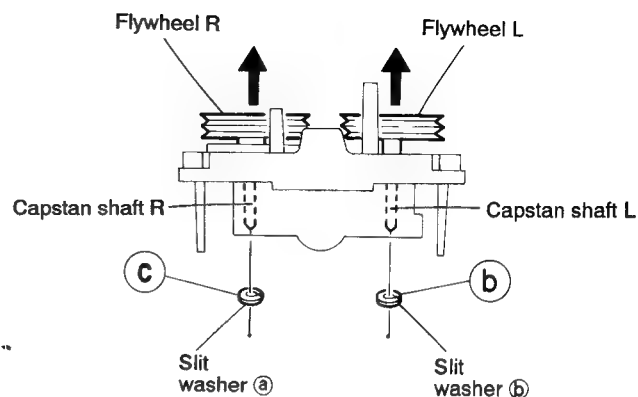

Fig. 5-25
■ Removing the Flywheel (See Figs. 5-25 and 5-26)